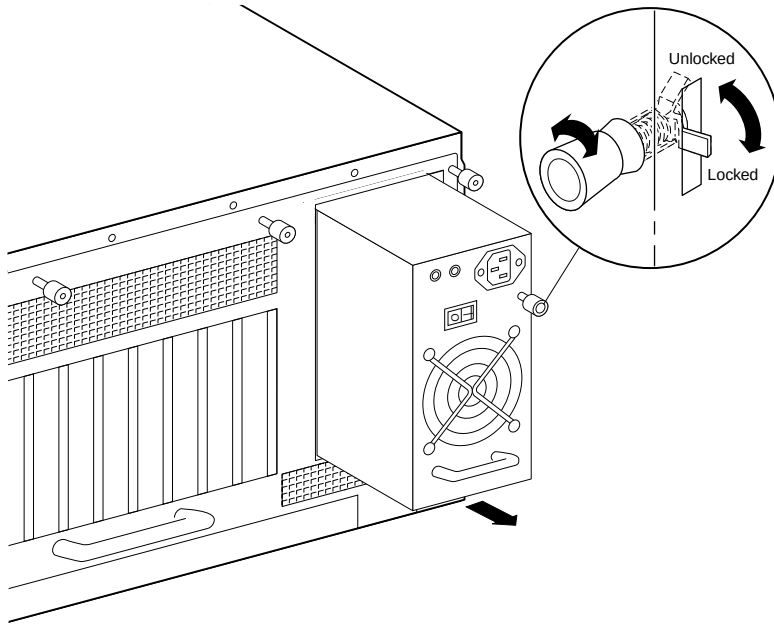

Figure B-1. Power supply in the NetApp F600 series
7. Unplug the filer AC power cord from the AC power cord receptacle on the filer power supply (see Figure B-1).
8. Loosen the thumbscrew on the front of the filer power supply (see Figure B-1).